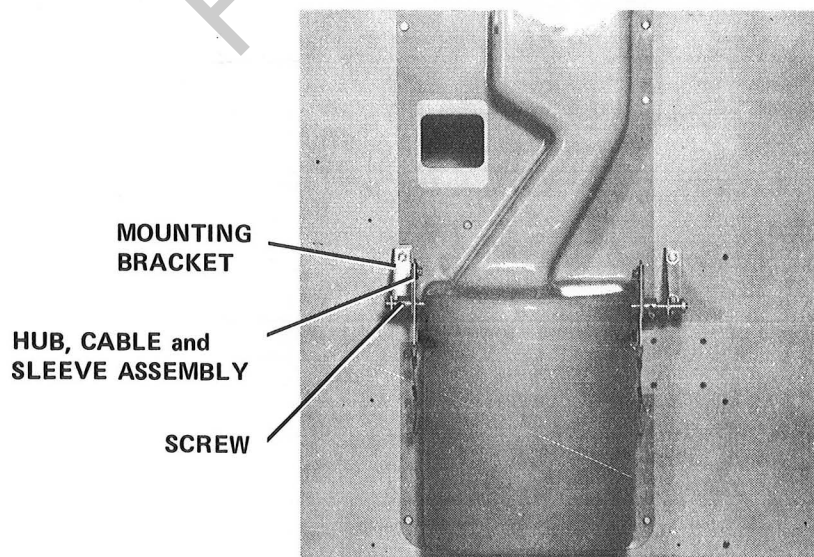

Figure 5.
21. Reinstall Hub, Cable and Sleeve Assembly on shaft of Shaft and Adjustment Lever Assembly as shown in Figure 5.
22. Position Mounting Bracket, Part No. 139075, on Phonograph Cabinet and secure with two Screws, Part No. 76267-21, as shown in Figure 5.
23. Secure Hub, Cable and Sleeve Assembly to shaft of Shaft and Adjustment Lever Assembly with Screw, Part No. 74976-24, removed in Step 18, as shown in Figure 5.
29. Loosen Trumpet Locking Screw and install Trumpet, Part No. 139036, in Mounting Bracket and Actuator Assembly as shown in Figure 5. Do not tighten Trumpet Locking Screw at this time.